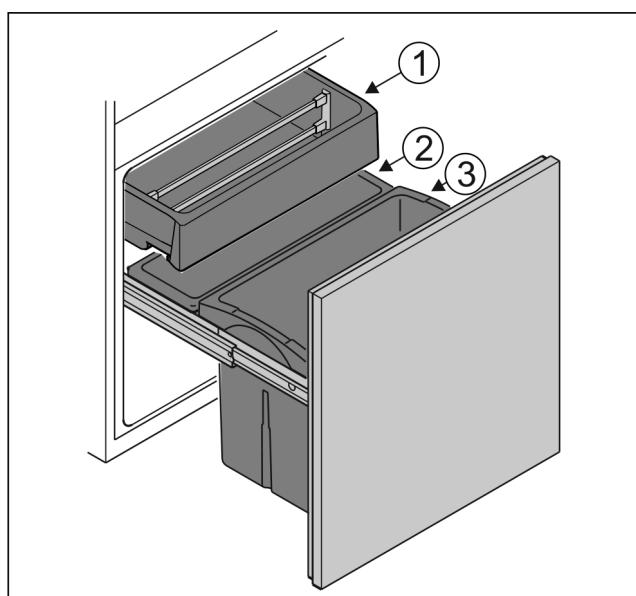

Fig. 6
- Container *Fig. 6 (1)*: Store unpackaged vegetables and tropical fruits.
- Container *Fig. 6 (2)*: Store small unpackaged fruits and vegetables.
- Container *Fig. 6 (3)*: Store individual bottles.